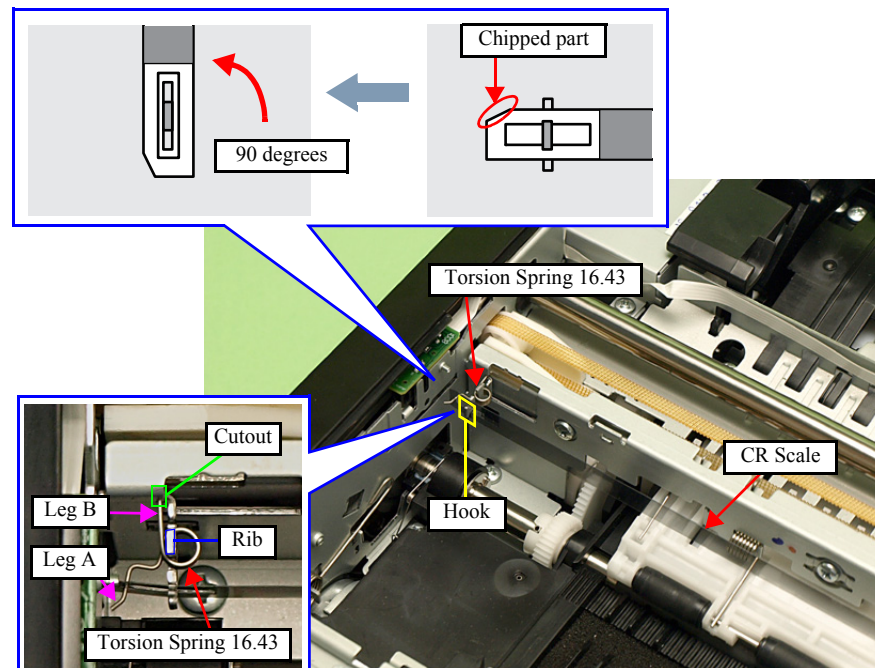

Figure 4-70. Removing the CR Scale (2)
- Attach the CR Scale to the hook on the left of the printer with the chipped part upward. (See Fig. 4-70.)
- When installing the Torsion Spring 16.43, follow the procedure below. (See Fig. 4-70.)